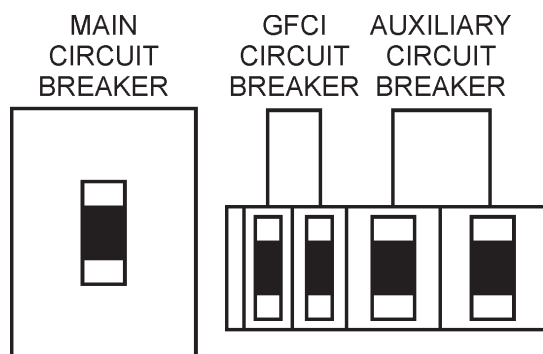

Figure 52. Main, AUX. and GFCI Circuit Breakers (OFF)
1. Switch the **MAIN**, **AUX** and **GFCI** circuit breakers (Figure 52) to the **OFF** position (no load).